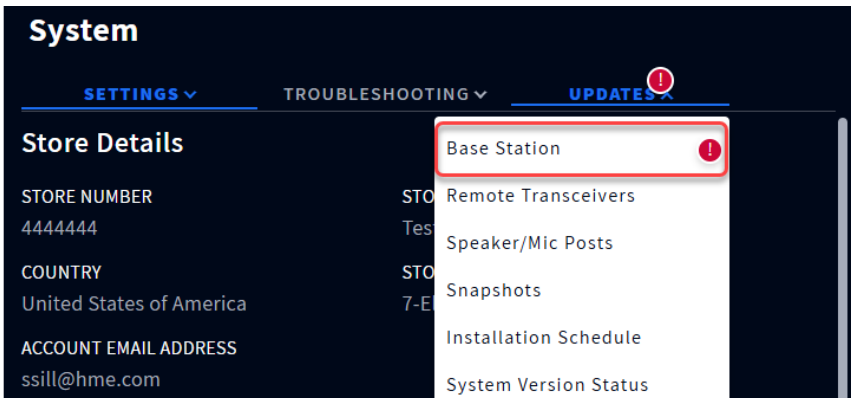

Fig. 14.8
- 2. Tap on the UPDATES tab. In this example, the Base Station option requires attention. See Fig. 14.8.
- 3. Select Base Station from the drop-down list (Fig. 14.8).